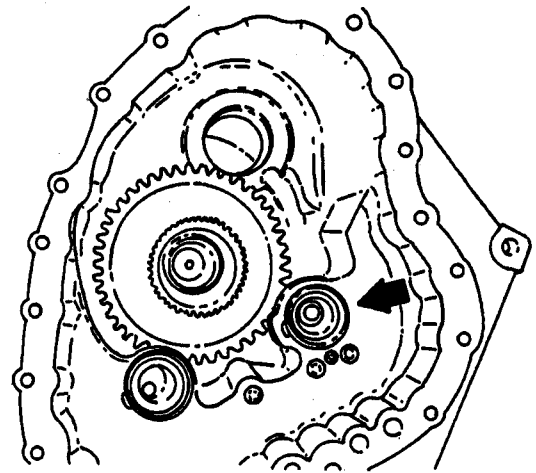

Figure 18.
11. Separate the two casing halves and add or subtract shims (Figure 18) beneath the bearing outer race in the rear casing to correct input clutch shaft end float. Repeat steps 9 and 10 to recheck the end float.